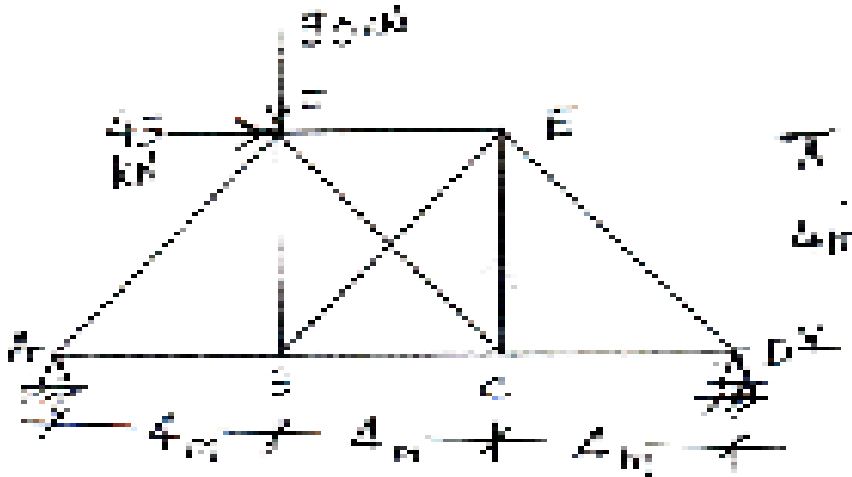

Fig. 10
- b) Find the forces in the members AB, BF and AF, for the truss shown in Fig. 10. Assume constant area for all members and $E = 210 \text{ GPa}$.